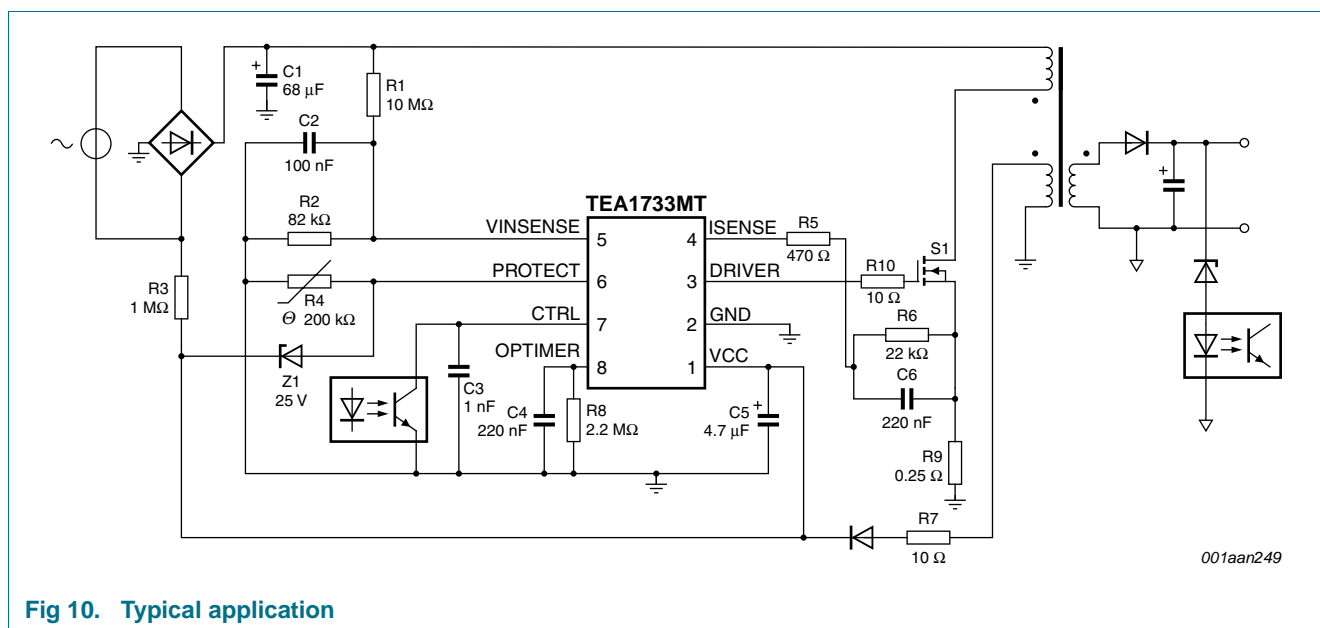

Fig 10. Typical application
A power supply with the TEA1733MT is a flyback converter operating in Continuous conduction mode (see Figure 10).
In the example shown in Figure 10, the PROTECT pin is used for OVP and OTP. The OVP level is set by diode Z1 to $V_{CC} = 25.8 \text{ V}$. The OTP level is set by Negative Temperature Coefficient (NTC) resistor R4. The VINSENSE pin is used for mains voltage detection and resistors R1 and R2 set the start voltage to about 80 V (AC). The overpower protection time is defined by capacitor C4 at 60 ms.